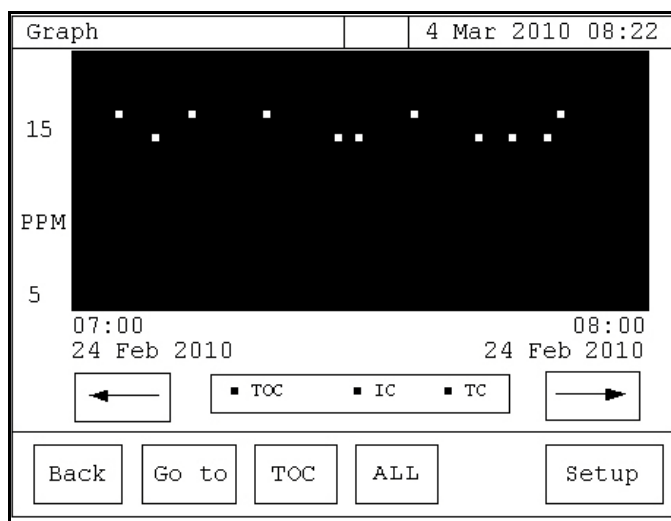

Figure 14: Graphing the Data History
2. Press the **Graph** button to display the data graph. (See Figure 14.)